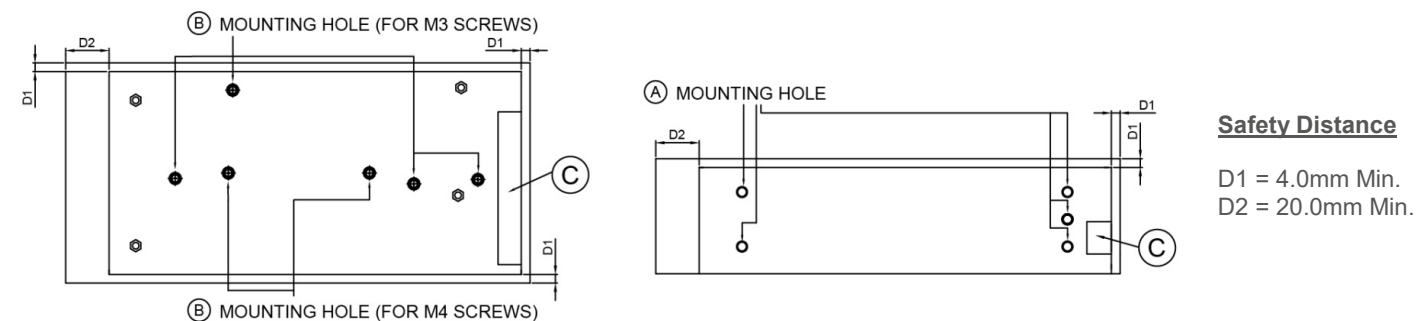

Fig. 3 Mounting Hole Locations and the Safety Distance
- (A) Side Mounting: Fig. 2 and Fig. 3 show the mounting hole locations for power supply assembly onto a metal mounting surface. The power supply shall be mounted on minimum of 4 mounting holes using M4 screw of maximum 4mm length (Refer to Fig. 4). This is to maintain a safety distance between the screw and internal components.
- (B) Base Mounting: Fig. 2 and Fig. 3 show the mounting hole locations for power supply assembly onto a metal mounting surface. The power supply shall be mounted on minimum of 4 mounting holes using M3 screw or 2 mounting holes using M4 screw of maximum 4mm length (Refer to Fig. 4). This is to maintain a safety distance between the screw and internal components.
- (C) Connector
- (D) This surface belongs to customer's end system or panel where the power supply is mounted.